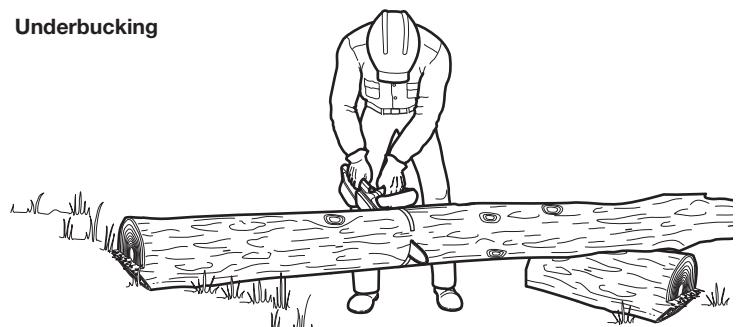

Fig. 32
1. Begin cutting from below, with the top of the saw chain against the bottom of the log (Fig. 32).